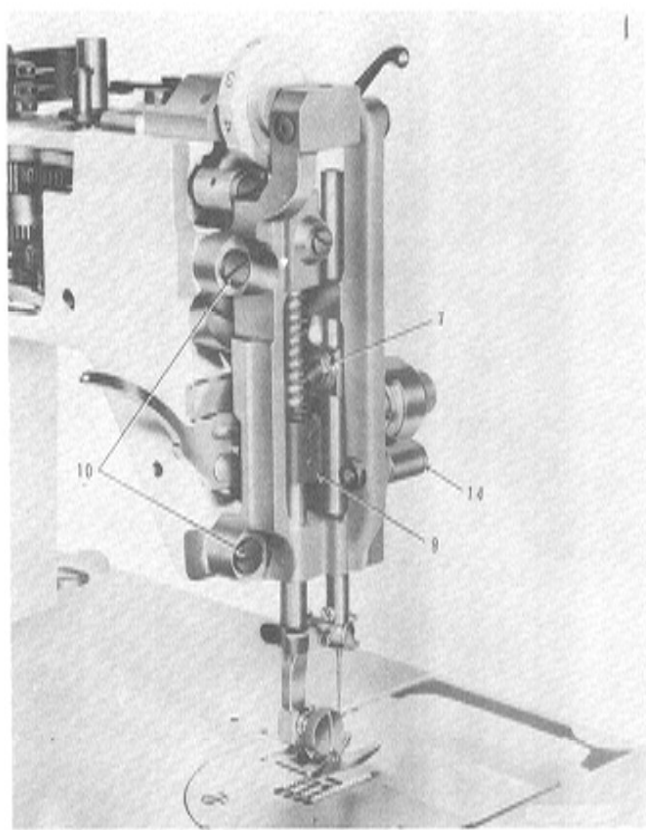

Figure 8
3. Presser Bar Lift. With the presser foot lever in the "UP" position, the distance between the top of the needle plate and the bottom of the leveled presser foot should be .234". By pushing the presser foot lever to its highest point the clearance should be 1/4". The presser bar guide bracket (Figure 8 No. 9) can be adjusted up or down by loosening the two screws on the presser bar guide bracket. In the "DOWN" position there should be approximately 1/8" clearance between the presser bar guide bracket and the cammed surface of the presser foot lever. It will also be noted, with the presser foot lever down, that the presser bar and foot can be forced up about 1/2" without disturbing tension. The presser foot lever only affects tension when raised.
6. Presser Bar Rotational Alignment. First check to make sure that the needle does not rub or strike the presser foot. To adjust, loosen two screws on presser bar guide bracket (Figure 8 No. 9) and rotate presser bar slightly. Gages to check feed dog height, needle bar and presser bar alignment are
If adjustment of the side to side clearance between the needle and the shuttle point is ever required, either remove the face cover plate and loosen the two screws which fasten the needle and presser bar assembly to the arm (Figure 8 No. 10) which may then be adjusted slightly or adjust at the mounting of the shuttle race to the gear box. See Figure 32. Great care must be exercised to maintain proper vertical and horizontal alignment. Always try several needles, change the shuttle and check to make sure that the needle bar isn't bent prior to attempting this adjustment. -It is rarely needed-